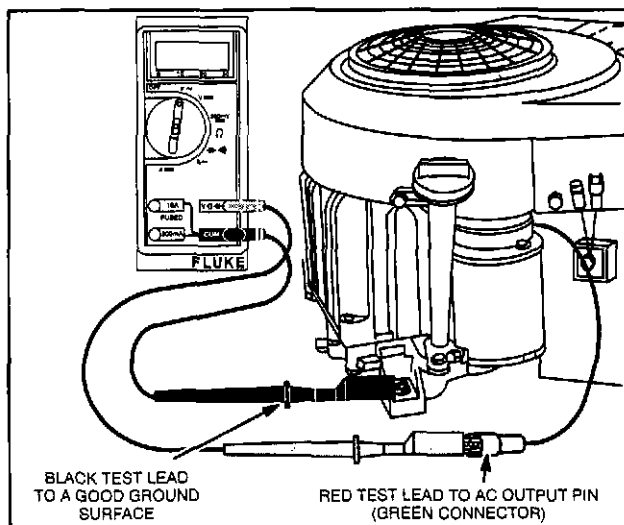

Fig. 20 - Testing AC Output
4. Attach RED test lead clip to output terminal, Fig. 20.